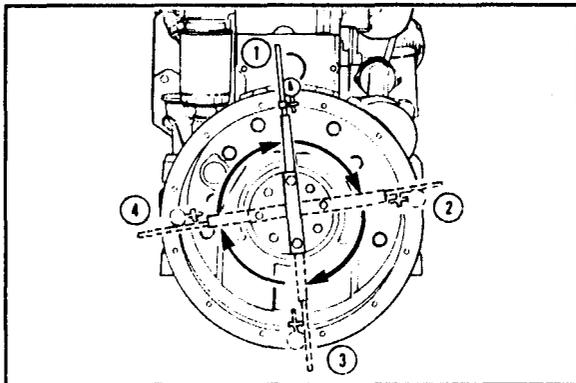

Figure 6-5
- Slowly rotate crankshaft. Record readings obtained at 3 o'clock, 6 o'clock and 9 o'clock positions (Figure 6-5).